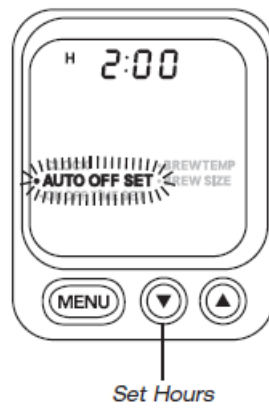

figure 19
- Press the Menu button until AUTO OFF SET flashes (see figure 19).